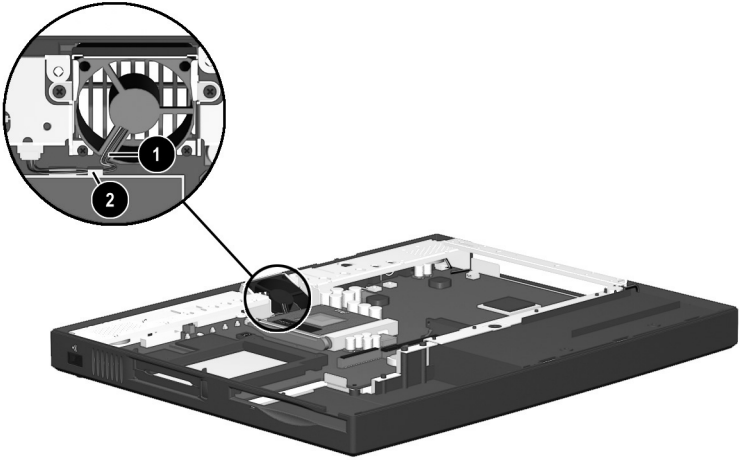

Figure 5-23: Routing the Fan Cable
When installing the fan, route the fan cable ❶ under the clip ❷ on the processor mount as indicated in Figure 5-23.